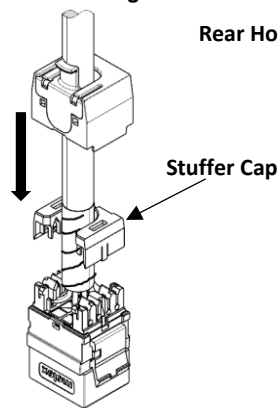

Fig.9
2.4 Fix the stuffer cap to IDC Housing (Fig.9) (Ensure Stuffer cap is locked perfectly with IDC Housing) and then slide down the Rear Housing till it is locked with IDC Housing 4 latches.